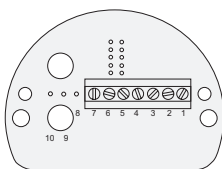

Fig. 1
Step 2: Install linear position sensor into position. Secure linear position sensor using six M6x45 A4-70, stainless steel, socket head cap screws (supplied with linear position sensor), or with 1/4"-20 x 1-3/4", stainless steel socket head cap screws. Tighten screws to 3.5 Nm (2.6 ft-lbs.) torque. (Fig. 1)
Pin	Output Type (Order Code) Fig. 1